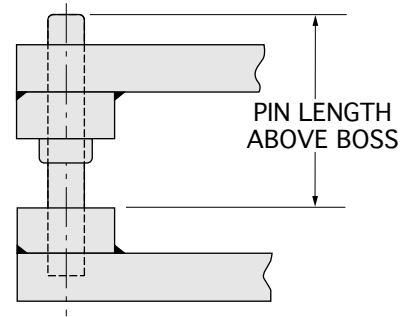

FIGURE 1
4. For Guide Pin Bosses Specify Pin Length Above Boss - See Fig. 1